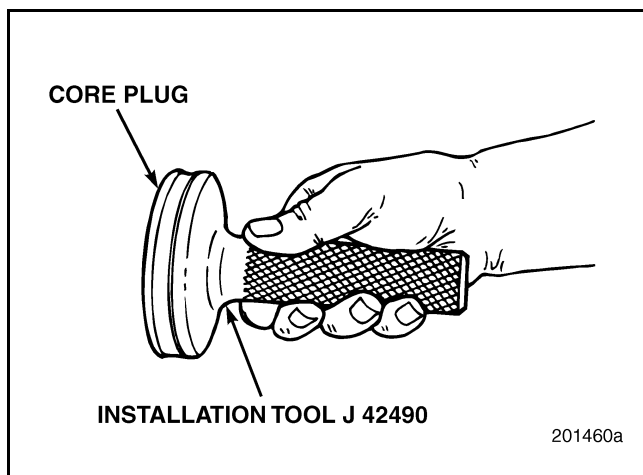

Figure 352 — Camshaft Core Plug Installation Tool
1. Position the core plug onto the core plug installation tool J 42490 (used with J 8092 driver handle). Refer to Figure 352.